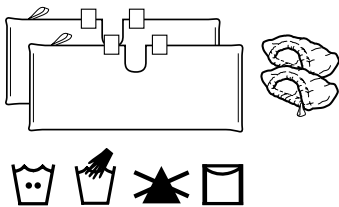

fig.25
- 1 We recommend washing your micro-fiber cleaning pads separately from other fabrics to avoid picking up lint. **Only use liquid detergent (no powder detergent). Do not use any fabric softeners or bleach.** Line dry or dry on a low dryer setting. (fig. 25)